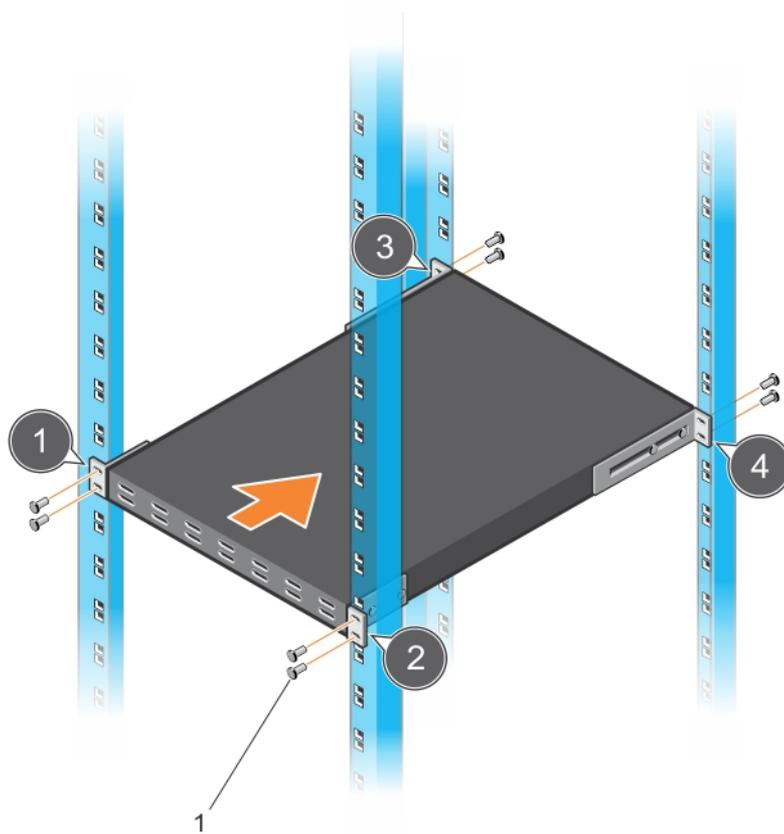

Figure 17. Example of a Mount Rack Tray in a 4-Post Rack
- ① **NOTE:** If the use of a rack bar or Dell ReadyRails does not satisfy your C9010 installation requirements, Dell Networking recommends using a rack mount tray to support the weight of a C9010 switch in a 2- or 4-post rack. For information about the chassis weight and other technical specification, see Technical Specifications.
To install a rack mount tray in a rack, follow the instructions provided with the tray kit. Decide where you want to mount the switch in the rack. Position the tray at that height and tighten it to the rack posts using the screws shipped with the tray (items 1 to 4 in Figure 17).